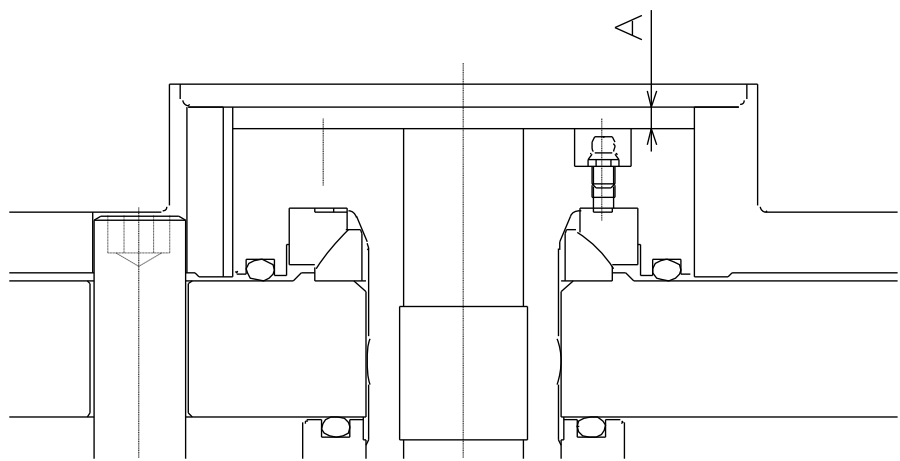

Fig.16
- Using the connecting handle, adjust the plunger position as shown in Fig.16, and then install the key plate to lock. Table 9 indicates dimension by a standard specification. It is sometimes different depending on the specifications, so refer to it together with a delivery specification.